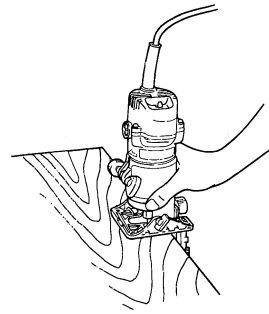

Fig. 9
- (4) When cutting refer to term "Feeding direction" in "How to use". (Fig. 9)